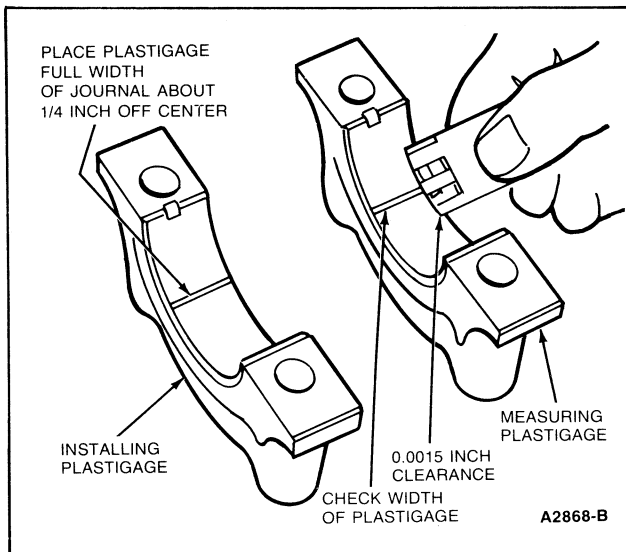

FIG. 12 Installing and Measuring Plastigage
3. Place a piece of Plastigage on bearing surface across full width of bearing cap and about 1/4 inch off center (Figure 12).